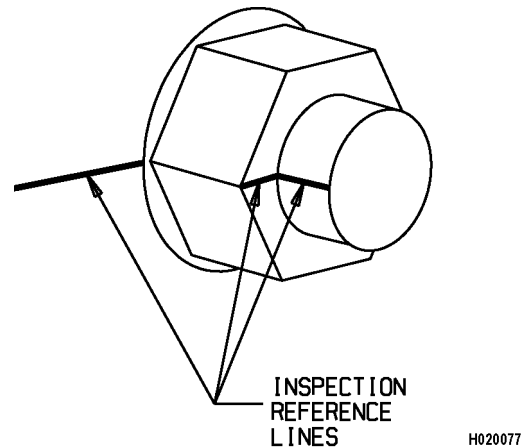

FIGURE 2-8. MAKING REFERENCE LINES
14. Make new reference lines along the cap screw, nut and frame at the rear of the joint as shown in Figure 2-8. These reference lines will be used to verify the cap screws have maintained their torque.
20. Make new reference lines along the cap screw, nut and frame at the rear of the joint as shown in Figure 2-8. For the four cap screws with spacers, refer to Figure 2-10. These reference lines will be used to verify the cap screws have maintained their torque.
If the reference lines on the hardware (Figure 2-8 and Figure 2-10) have remained in alignment, the trucks may remain in use.